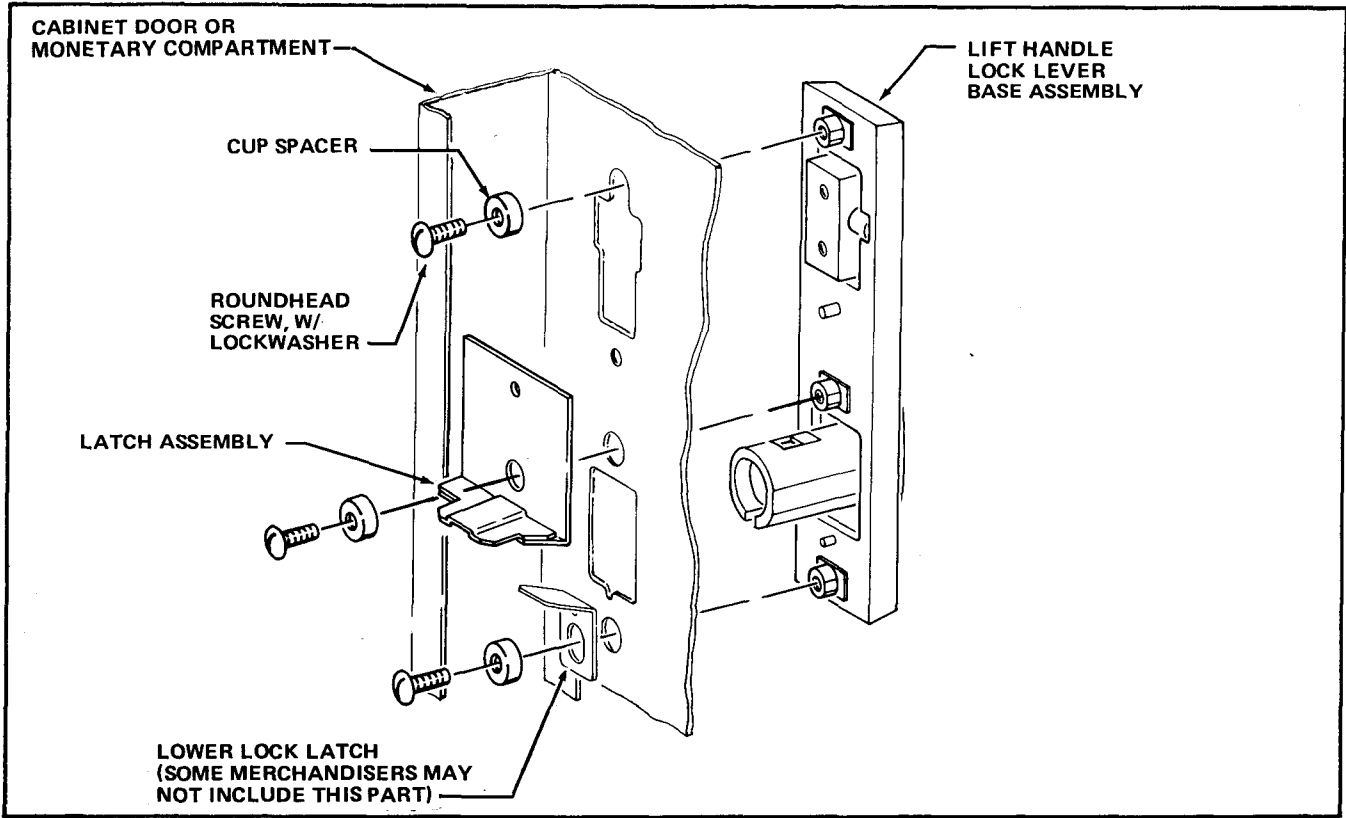

FIGURE 3
3. Remove the 3 Screws/Lockwasher and the Cup Spacers which attach the Lift Handle Lock Lever Base, Latch Assemblies, etc., and remove those parts from the Merchandiser. See Figure 3.